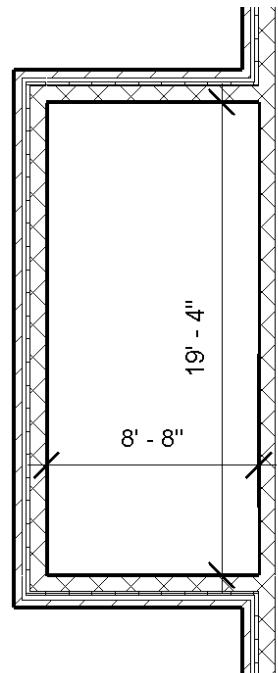

FIGURE 3-3.8 Revised west stair
- 23.** Draw a wall so the gypsum finish continues on the office side, using the *Align* tool if necessary (Figure 3-3.8).